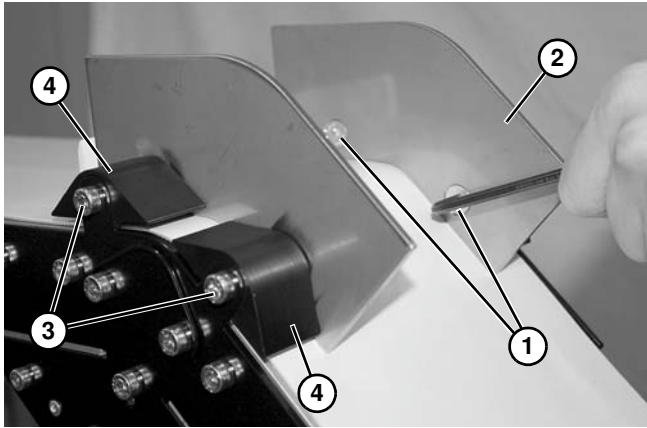

Figure 59
3. If equipped with an upper knuckle, remove screws (**Figure 59, item 1**) and remove guard (**Figure 59, item 2**) on both sides of knuckle.
4. Remove screws (**Figure 59, item 3**) and remove spacers (**Figure 59, item 4**) on both sides of knuckle.